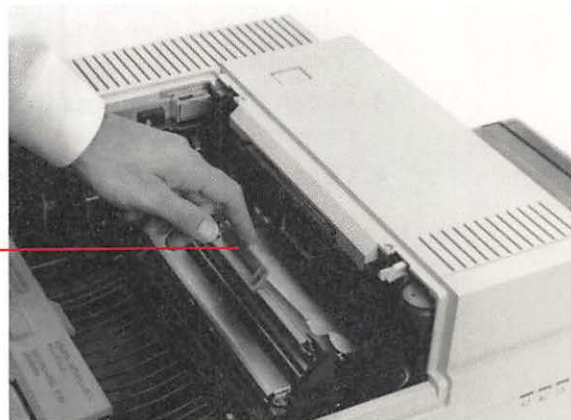

Figure 6-16
3. If the jam is around the print feed area, open the transfer paper lock and free the paper. (See Figure 6-16.)